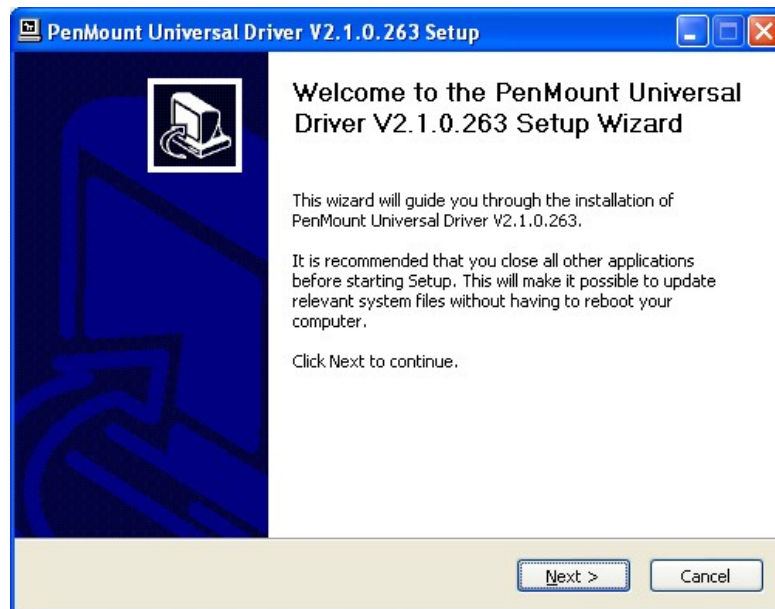

Figure 5-22: Touchscreen Driver Welcome Screen
Step 4: A **Welcome Screen** appears (Figure 5-22).